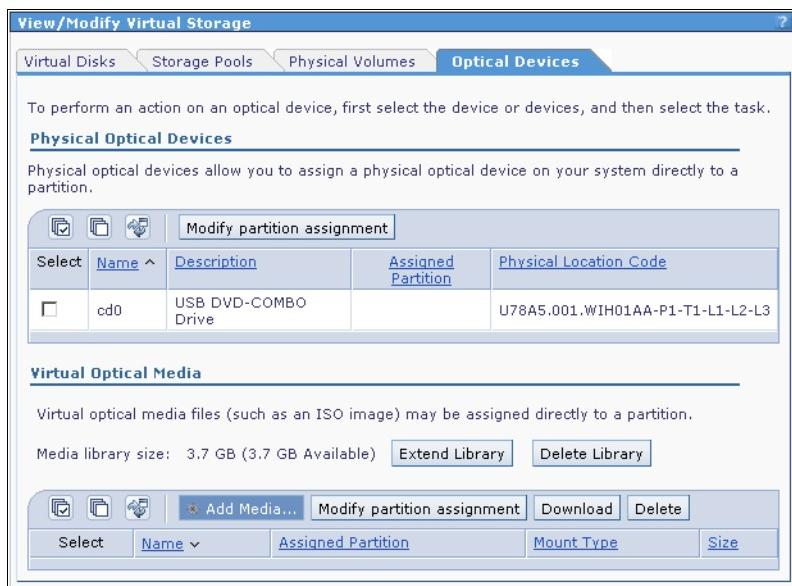

Figure 6-6 Media library - add media
- It takes a moment to create the library volume and file. After that is done, return to the panel shown in Figure 6-6. Click **Add Media** to create an image from the AIX DVD.